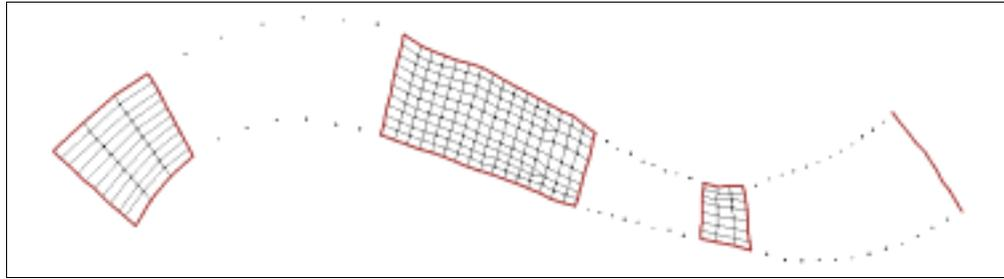

Figure 3-21 The first three patches from the poway3 data.
- Create the three patches shown in Figure 3-21. In each case, use the default values in the Rectangular Patch Options dialog.